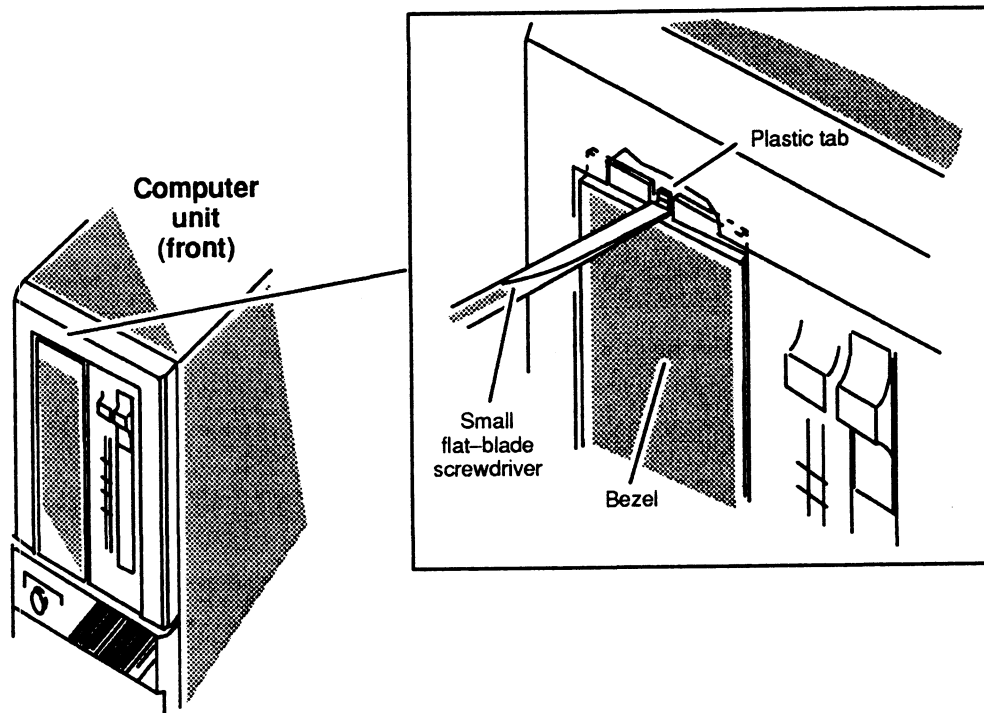

Figure 2-11 Removing or Replacing a Bezel
1. If you are installing a removable media drive, look at the computer unit's front panel. If a bezel covers the front of the slot where you are installing the drive, you must remove the bezel as described below. Figure 2-11 shows a bezel covering the right position of the front slot.